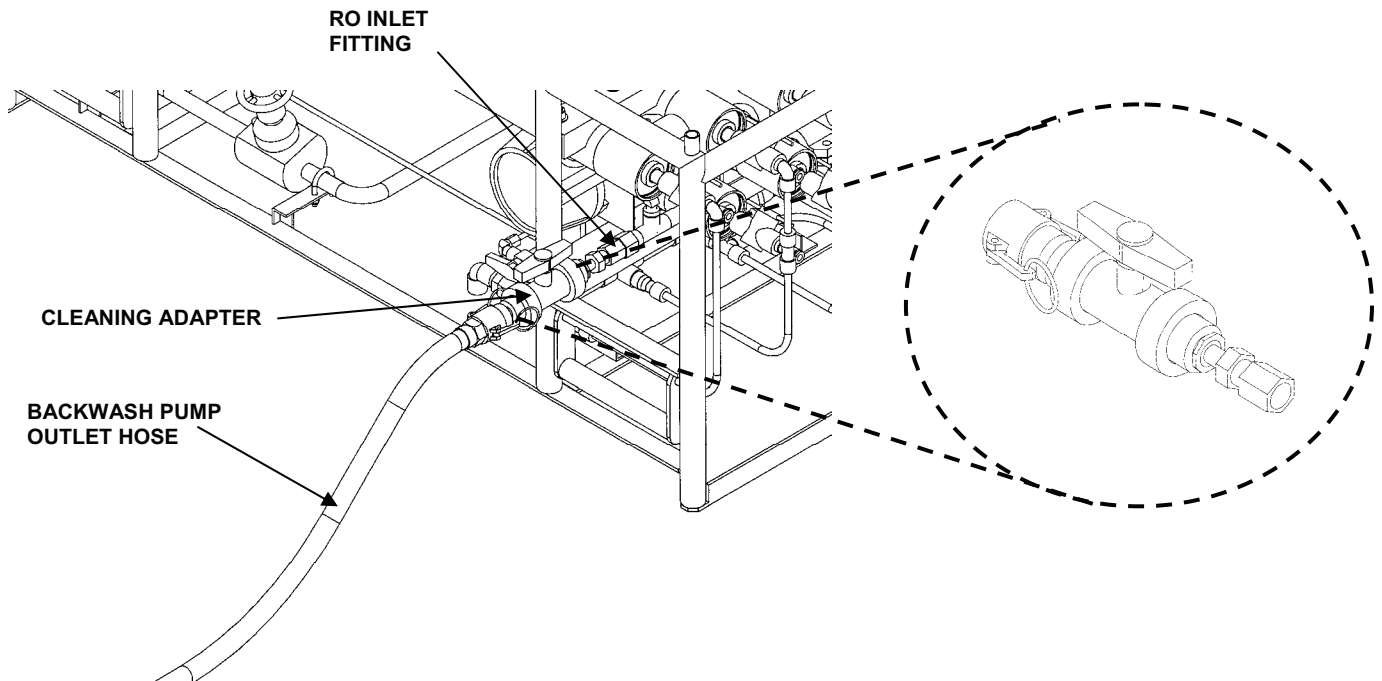

Figure 10. Cleaning Adapter Connection.
11. Attach the cleaning adapter from the BII box to the RO inlet. See Figure 10.